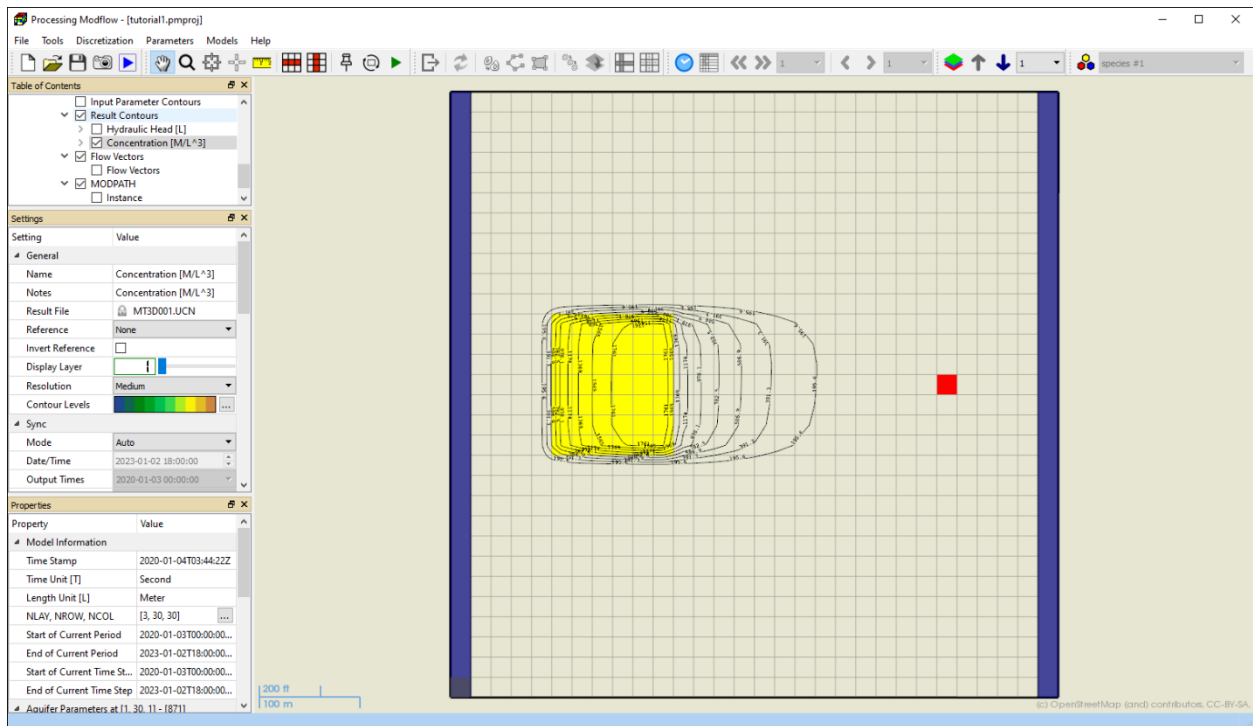

Figure 25. The concentration contours in Layer 1
- PM will add an “Concentration [M/L3]” item to the TOC and will display the contours on the Map Viewer using the calculated concentration values at the end of the current time step and stress period. The contours in Layer 1 should look like Figure 25. You may use the Settings window to use the concentration values at another time point.